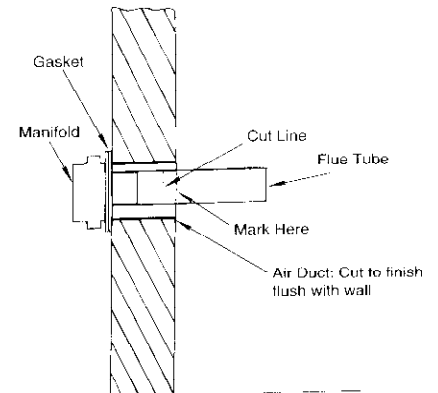

Figure 4
- 7.5** Fit the gasket to the manifold as shown in Fig 4, then replace the manifold as in 7.3 and secure with the three screws.
- 7.12** Mark the position of the outside wall surface onto the tube (Fig. 4).